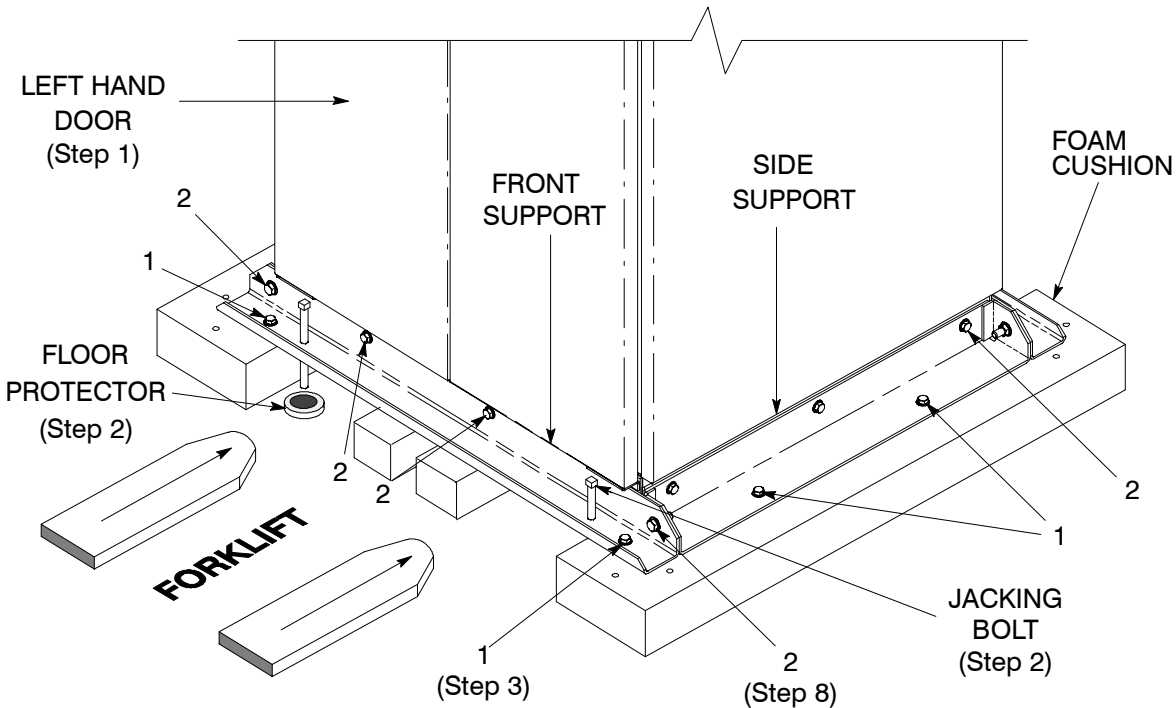

Figure 5. Removing Front and Rear Supports
3. Loosen, but do not remove, the hardware holding the foam cushions to the front and rear supports (labeled “1” in Figure 5).
8. Remove the hardware, labeled “2” in Figure 5, holding the front, rear and side supports to the cabinet base. Discard or recycle the hardware and support brackets in a responsible manner.